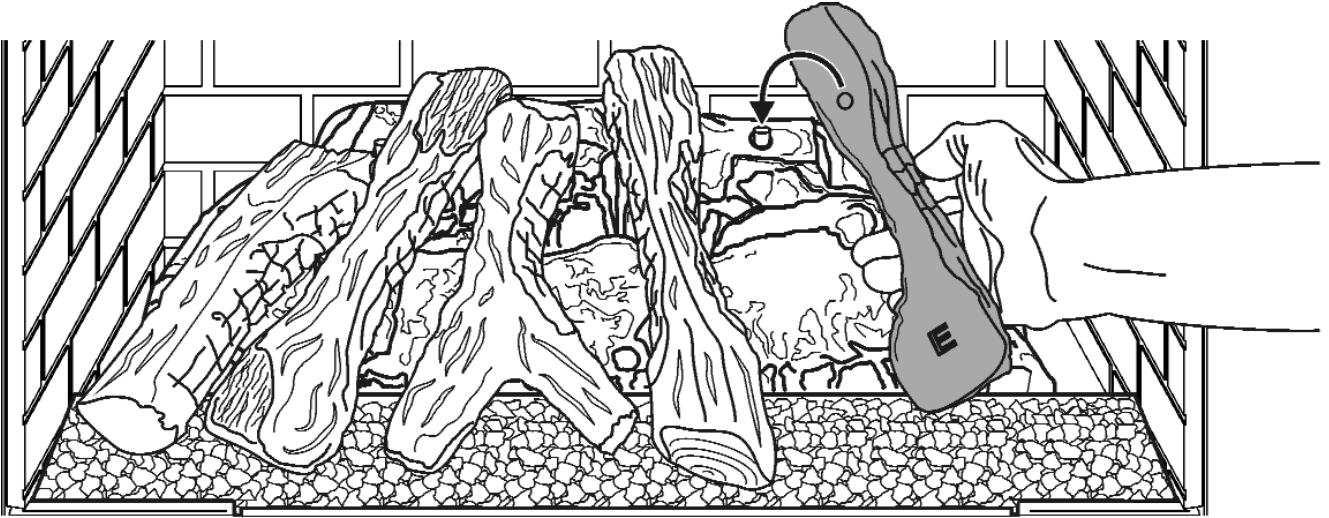

Figure 8. Fitting log 'E'
8. Remove log 'E' from its protective packaging and position it as shown in figure 8. Locate the hole in the base of log 'E' onto the peg on top of the rear base.